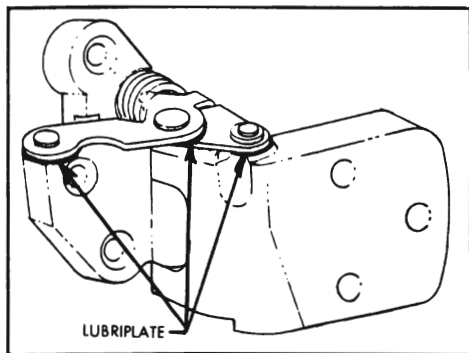

Figure 1-17—Lubrication of Rear Door Hinge and Hold-Open
7. Rear Door Hinge and Hold-Open. Wipe off dirt and apply Lubriplate at points indicated by arrows in Figure 1-17. Wipe off excess.